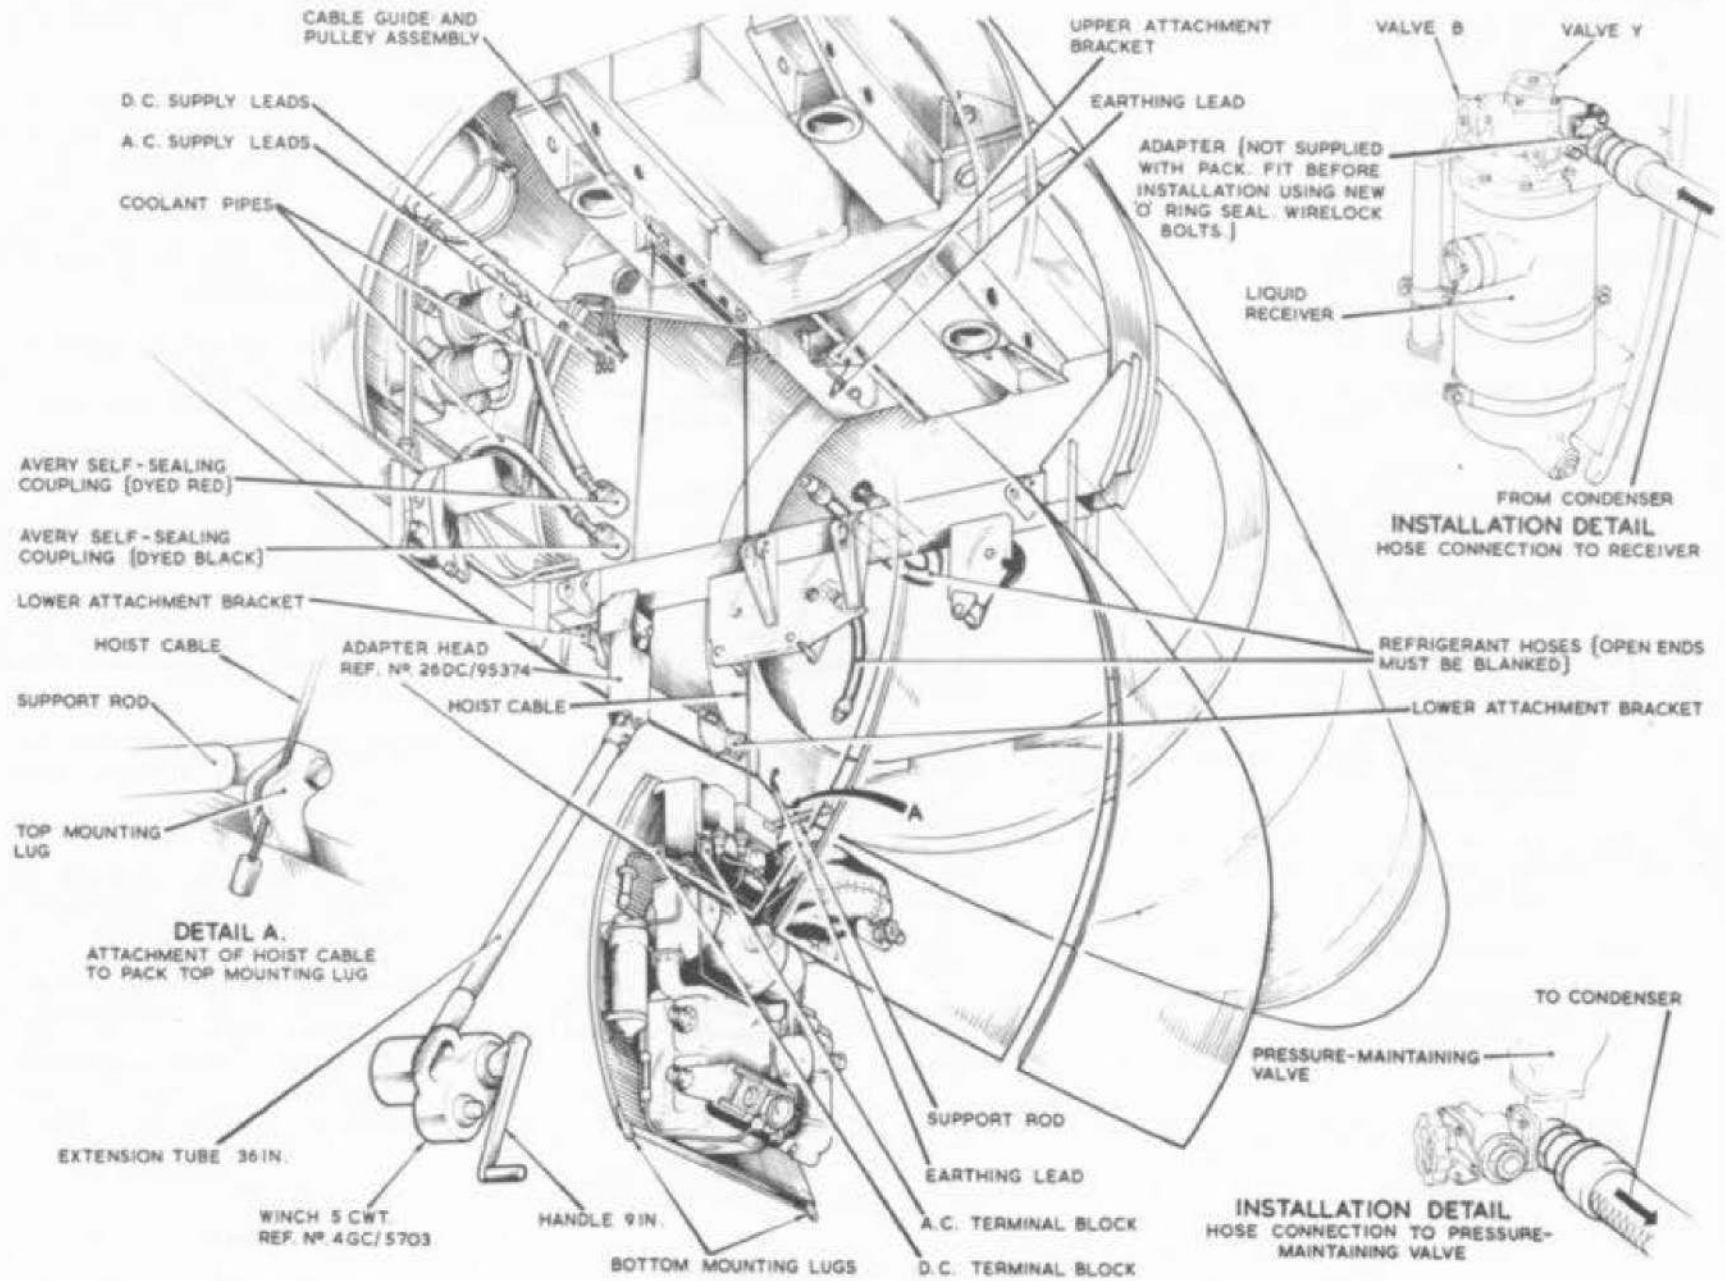

Fig. 10. Cooling pack removal.
- (1) Remove the blanking plate from the inlet port of the liquid receiver and fit the refrigerant hose adapter, using a new O ring seal.
- (2) Bolt the support rod to the top mounting lug. (Detail A fig.10).
- (3) Position the pack below the compartment and insert the nipple-end of the hoist cable into the slot in the pack top mounting lug. Tension the cable to support the pack, then detach the storage stand.
- (4) Hoist the pack into the aircraft until the bottom mounting lugs are in line with the lower attachment brackets. Align the lugs with the brackets and insert the Pip-pins.
- (5) Align the support rod with the upper attachment bracket and insert the Pip-pin.
- (6) Disconnect and remove the hoist.
- (7) Connect the earthing lead from the top attachment bracket, to the earthing lead from the top of the pack.
- (8) Remove the blanking caps from the two flexible hoses attached to the condenser.
- (9) Direct a jet of nitrogen into one hose until it is flowing freely from the other. Before the purging effect of the nitrogen is lost,